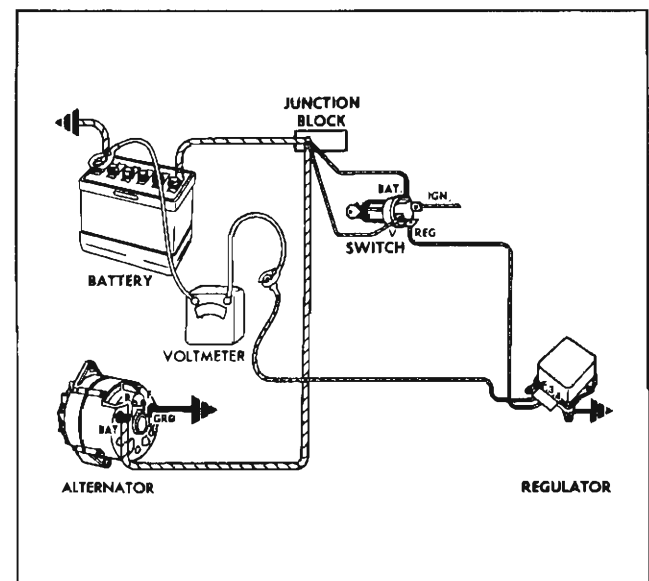

Fig. 11-27 Voltmeter in Circuit
6. Disconnect field lead at alternator and connect voltmeter between this lead and ground terminal of battery (Fig. 11-27). With ignition off, voltage should be zero. If not, faulty ignition switch or wiring connection at switch is indicated. With ignition on, reading should equal battery voltage. If not, faulty ignition switch and/or open at connections are indicated. If field circuit checks out properly, proceed to step 7.